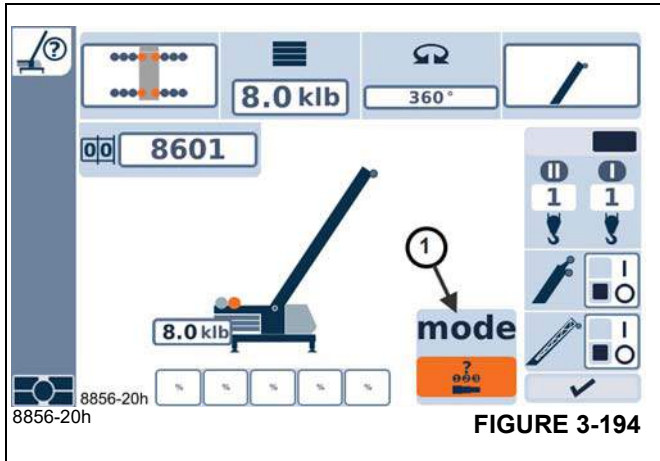

FIGURE 3-194
The telescoping status or pinned boom configuration can be selected from the RDM (RCL display). This is done by selecting a Telescoping Mode Number. Refer to (1), (Figure 3-194). There are 6 available pre-selected Mode Numbers. Referring to (Figure 3-194), the Telescoping Mode Number is available to be selected since this option on the display is selectable. However, this is only selectable after the RCL has been initialized once (having previously used the check-mark on this screen), the telescoping function has been enabled, and the boom is fully retracted and locked.
With the Telescoping Mode Number option available, and using Enter on this item on the screen, the up/down arrows or jog dial can be used to select from 1 to 6. (Figure 3-194) shows the appearance for Mode 1. It is seen that Mode 1 has the requested pinned boom configuration of 100-100-100-100-100. If this is the desired configuration, then Enter can be used to select it. Then, when the check-mark is used on this screen, the new requested telescoping status will be used and the semi-automatic telescoping function commences. The ODM (operating display) can then be used to select a telescoping screen and the requested telescoping status should be shown on the ODM, as well.
Note that when the RCL configuration screen is used (such as shown in Figures 3-194 and 3-195), the telescoping function is paused (unable to extend, retract, lock or unlock the boom). Once the check-mark is used, the telescoping function resumes.